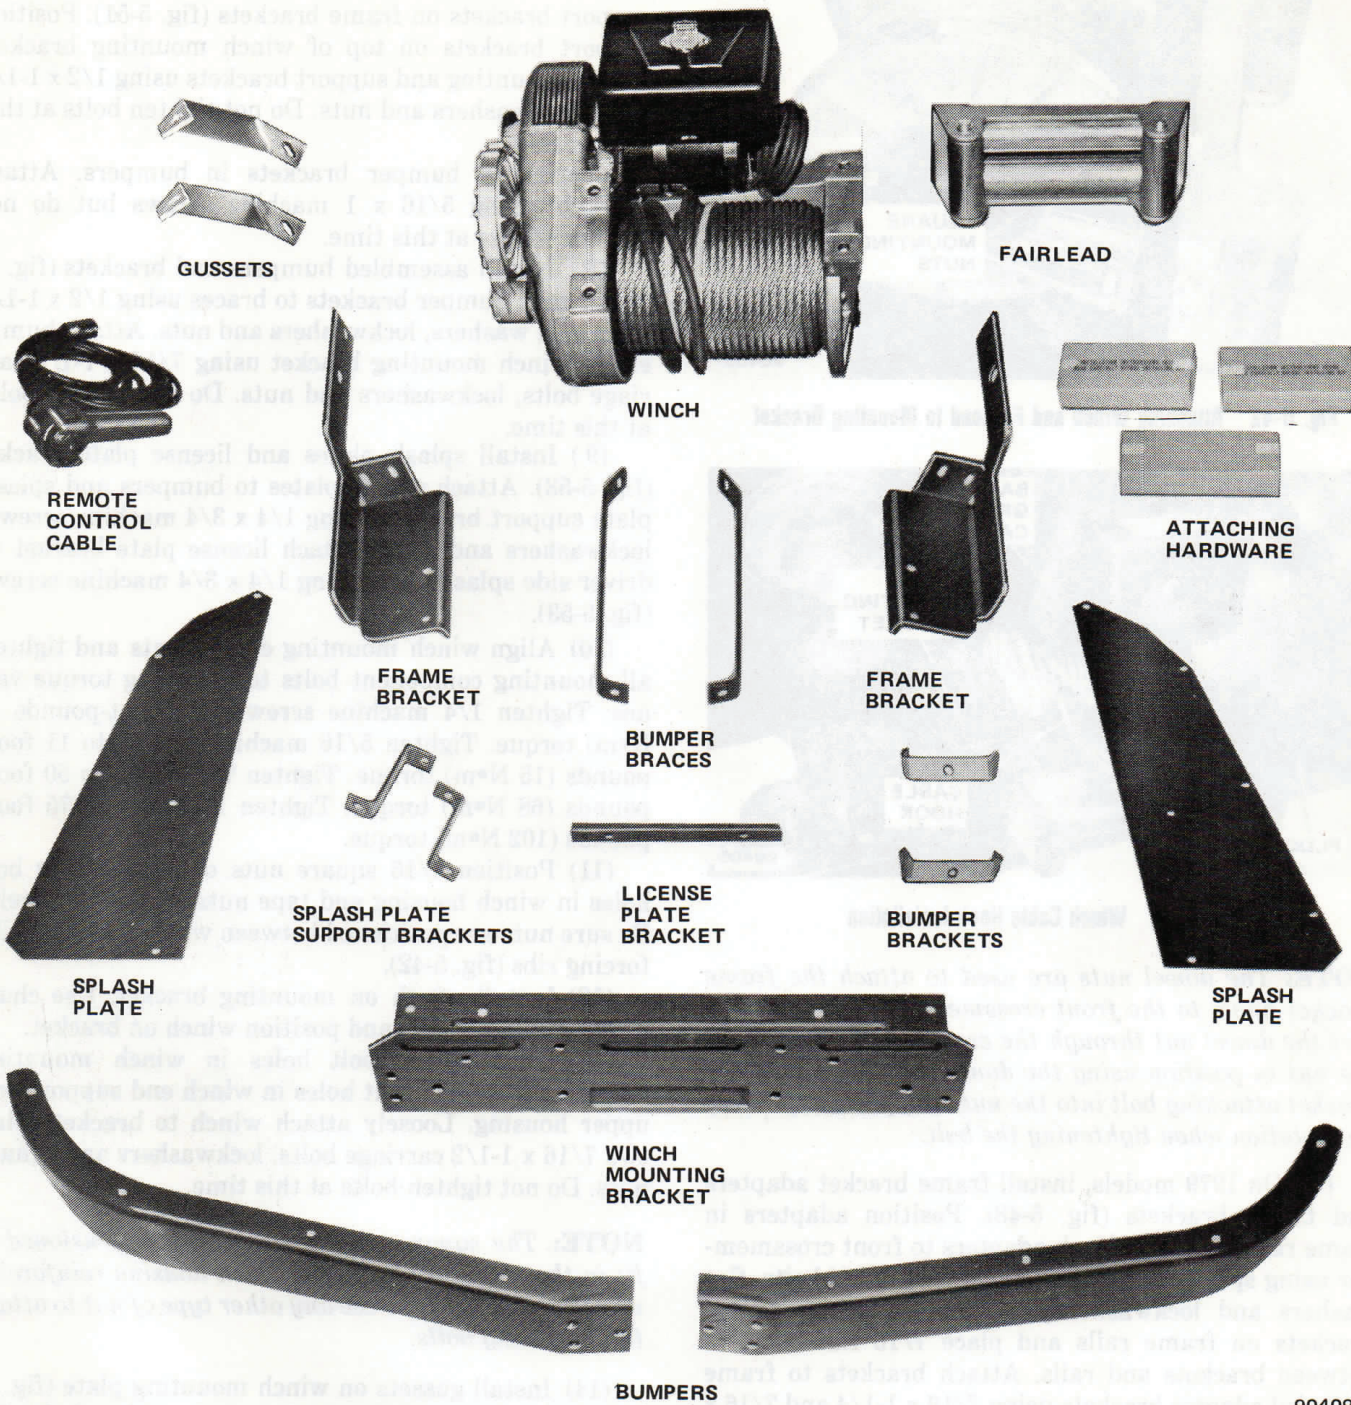

Fig. 5-44 Warn Electric Winch Kit—1976-78 Cherokee-Wagoneer-Truck
**NOTE:** The various Warn winch kits include all of the components necessary for a complete installation. This includes the required brackets, braces and attaching hardware. Before proceeding with kit installation, check the kit contents thoroughly to be sure all needed parts are included (figs. 5-44 and 5-45).